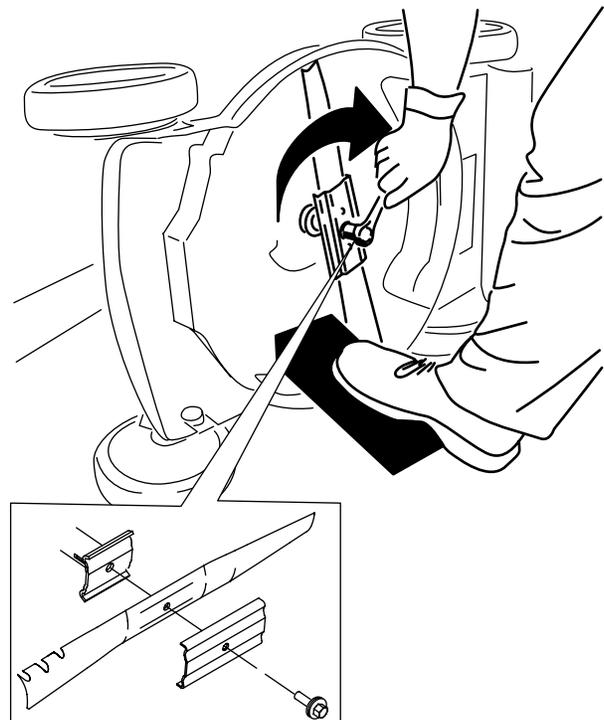

Figure 24
4. Install the new blade and all mounting hardware (Figure 24).